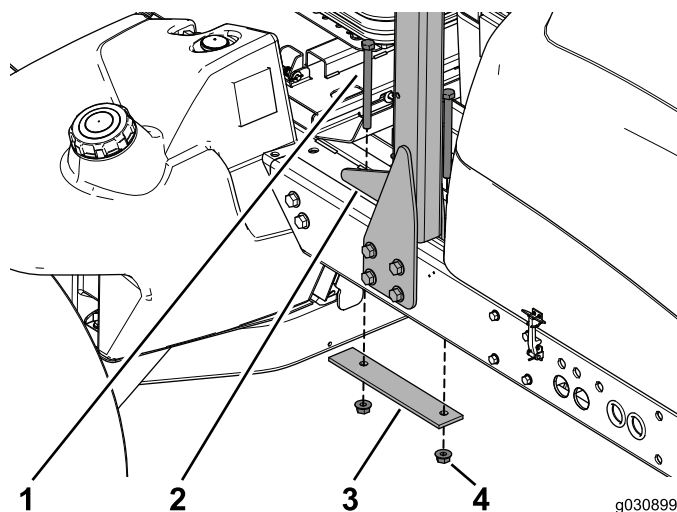

Figure 2
3. Remove and retain the 2 bolts, reinforcement plate, and 2 flange nuts securing the ROPS to the top of the frame (Figure 2).